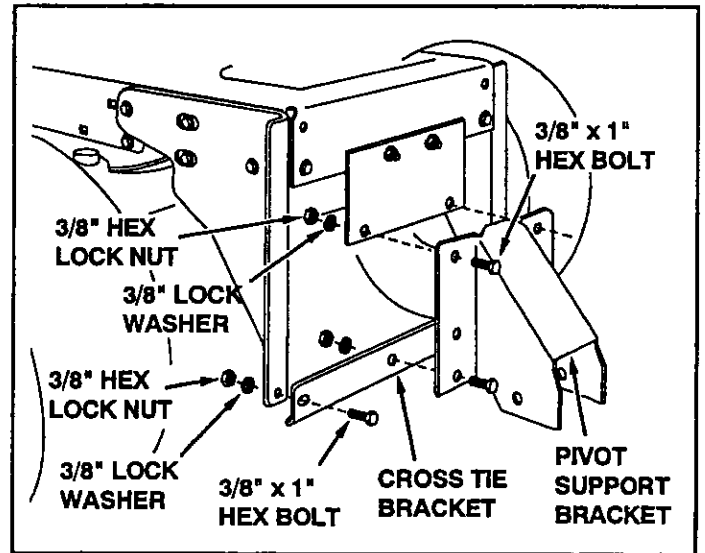
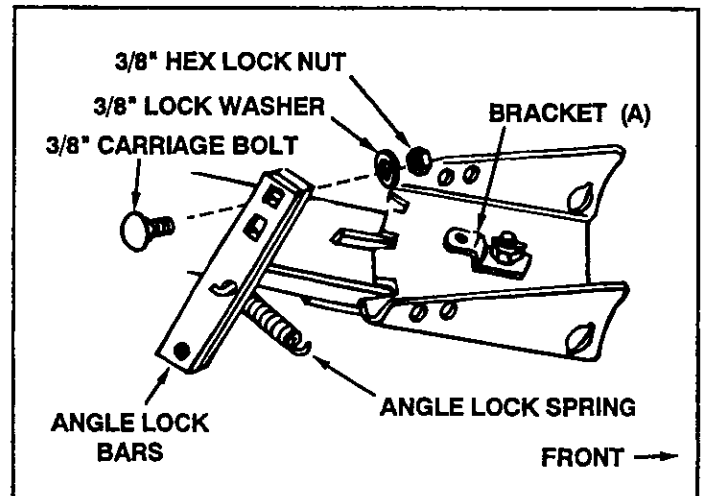

FIGURE 6
FIGURE 7
- Assemble the cross tie bracket to the bottom hole in both hanger brackets using two 3/8" x 1" hex bolts, two 3/8" lock washers and two 3/8" hex lock nuts. **Do not tighten yet.** See figure 6.
- Assemble the pivot support bracket to the pivot plate bracket and the cross tie bracket using four 3/8" x 1" hex bolts, four 3/8" lock washers and four 3/8" hex lock nuts. **Do not tighten yet.** See figure 6.
- **Tighten** the 2 bolts fastening the cross tie bracket to the hanger brackets. (Figure 6)
Tighten the 4 bolts fastening the pivot support bracket to the pivot plate bracket and the cross tie bracket. (Figure 6)
- Assemble the two angle lock bars together as shown in figure 6, so that all holes are aligned. Use one 3/8" x 1-1/4" carriage bolt, one 3/8" lock washer and one 3/8" hex lock nut. Be sure to insert bolt from side indicated. **Do not tighten at this time.** See figure 7.